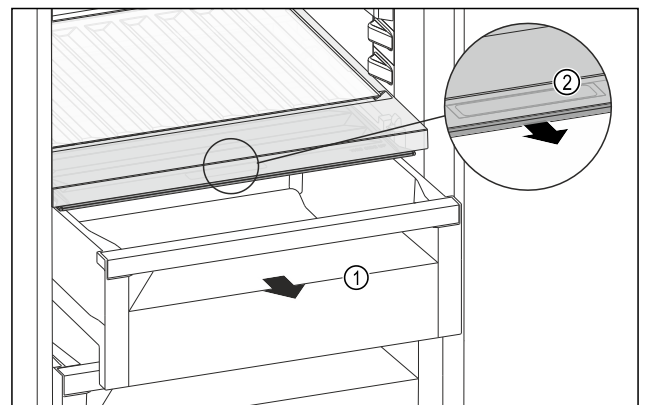

Fig. 214
- ▶ Pull out the drawer Fig. 214 (1).
- ▶ Grasp the recessed grip Fig. 214 (2) on the compartment lid and pull the compartment lid forwards at the same time.